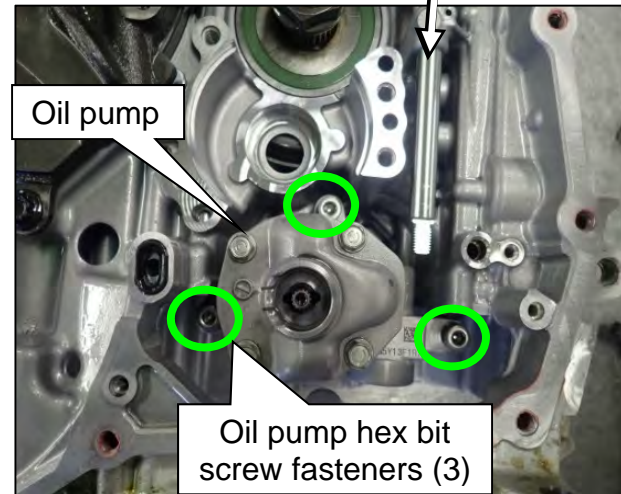

Figure 91
66. Remove the three (3) hex bit screw fasteners in the locations shown in Figure 91, and then remove the oil pump from the CVT case.